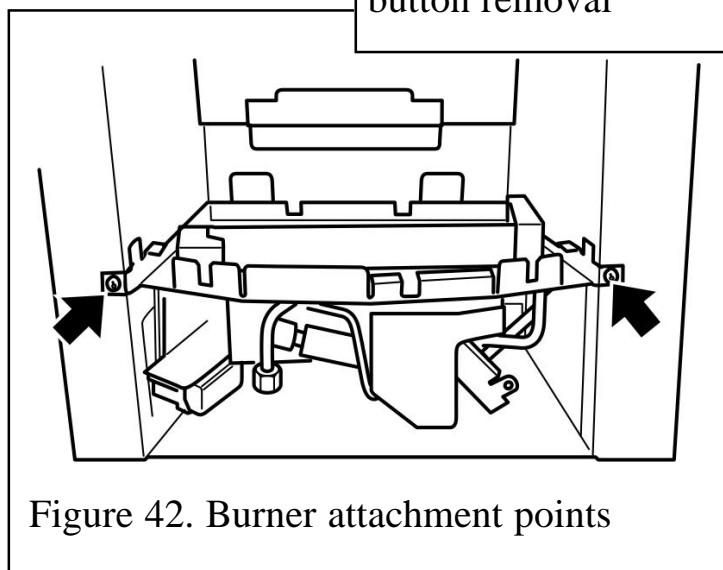

Figure 42. Burner attachment points
4. Detach the burner unit from the hotbox by removing two screws (See figure 42).